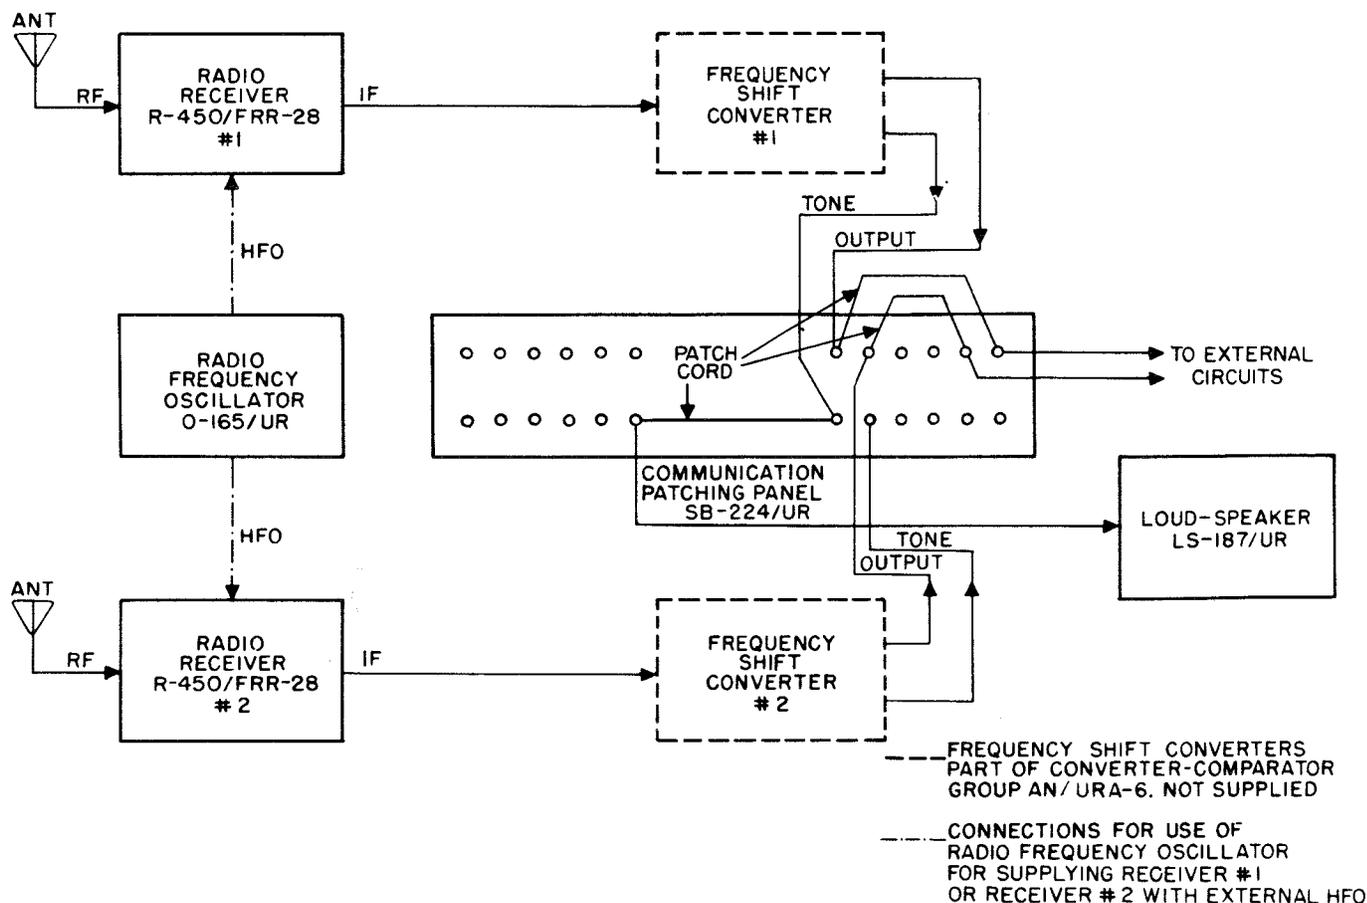

Figure 2-3. Radio Receiving Set AN/FRR-28, Block Diagram, Individual Reception of FS Signals
*c. INDIVIDUAL RECEPTION OF FREQUENCY-SHIFT SIGNALS.* (See figure 2-3.)—When a frequency-shift converter is supplied with the receiving set, frequency-shift signals can be received. A CW signal, whose normal frequency is shifted to another frequency for a period of time corresponding to the transmitted intelligence, is a frequency-shift signal.